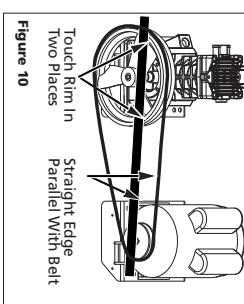

Figure 10
4. To align belt, lay a straightedge against the face of the flywheel touching the rim at two places (see Figure 10).
5. Adjust flywheel or motor pulley so that the belt runs parallel to the straightedge (See Figure 10).